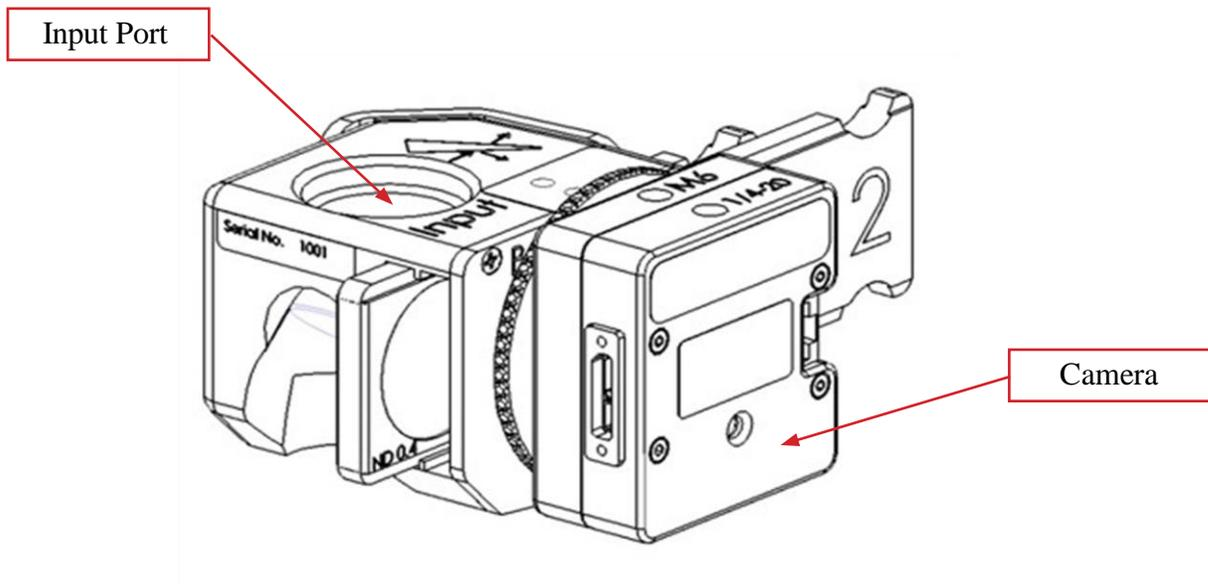

Figure 1
1. The LBS-300HP is attached to the camera as shown above in Figure 1. An adjustable locking ring is provided so that the beam splitter can be rotated in any orientation.